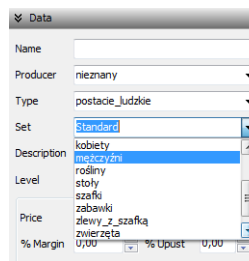

Fig. 153 – drop-down list of sets
- each new position entered in fields **Producer**, **Type** or **Set** is added to the drop-down list and can be selected from this list in the future instead of being entered again (Fig. 153);